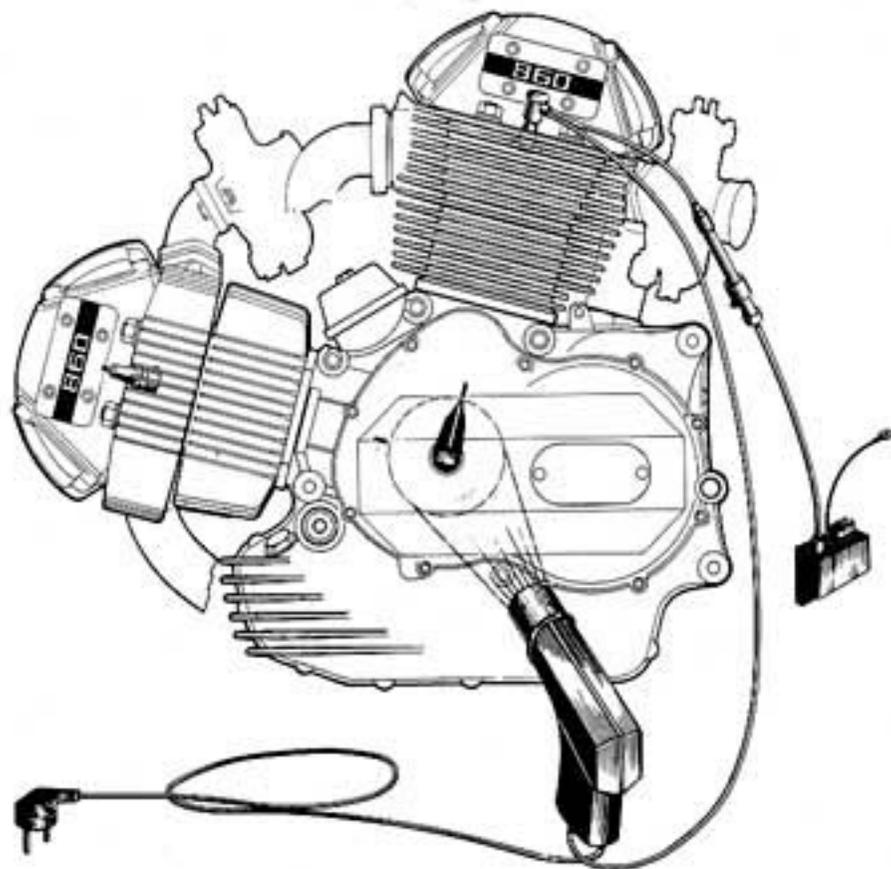

Fig. 16
- 3) Start the engine until attaining about 3,000 rpm. and direct the stroboscopic light on the reference mark (I) of the cylinder in question, placed on the cover, clutch side.
- 4) The stroboscopic light must light up the phasing indicator perfectly aligned with the reference mark (I). If it is not, adjust the coil ignition rotating the stator base of the ignition generator: **to advance rotate anti-clockwise; to retard rotate clockwise** (see Fig. 16).